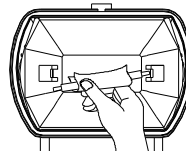

FIGURE 12
- 3) Install the lamp by inserting one end into the lamp holder and depressing until enough clearance is gained to seat the other end of the lamp into the lamp holder. Rotate the halogen lamp to ensure proper seating (FIGURE 12).